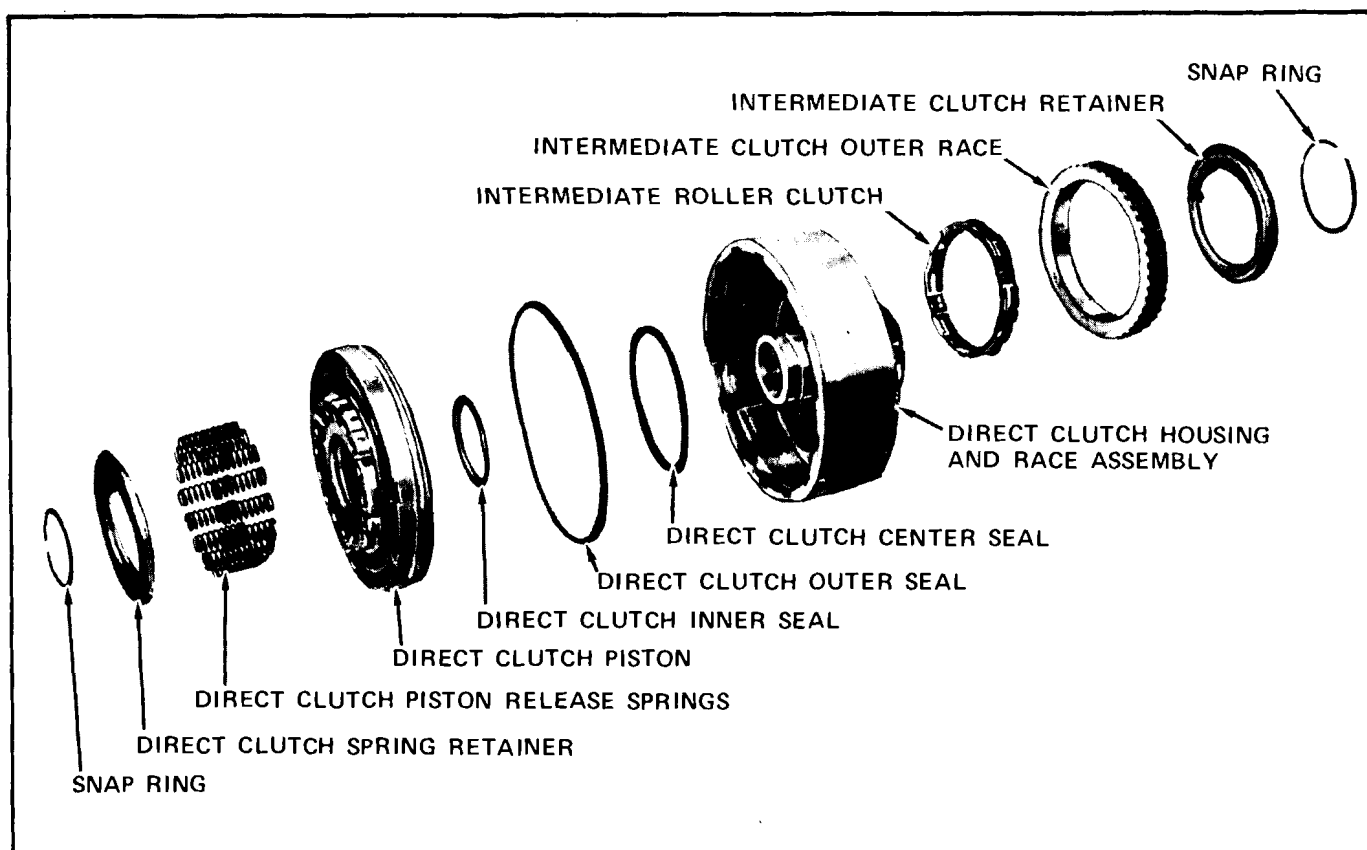

Fig. 7E-129 Exploded View of Direct Clutch Piston and Intermediate Roller Assembly
2. Install a new outer clutch piston seal with lip facing away from spring pockets (Fig. 7E-131).
3. Install a new clutch center seal on hub of direct clutch housing with lip of seal facing up (Fig. 7E-132).